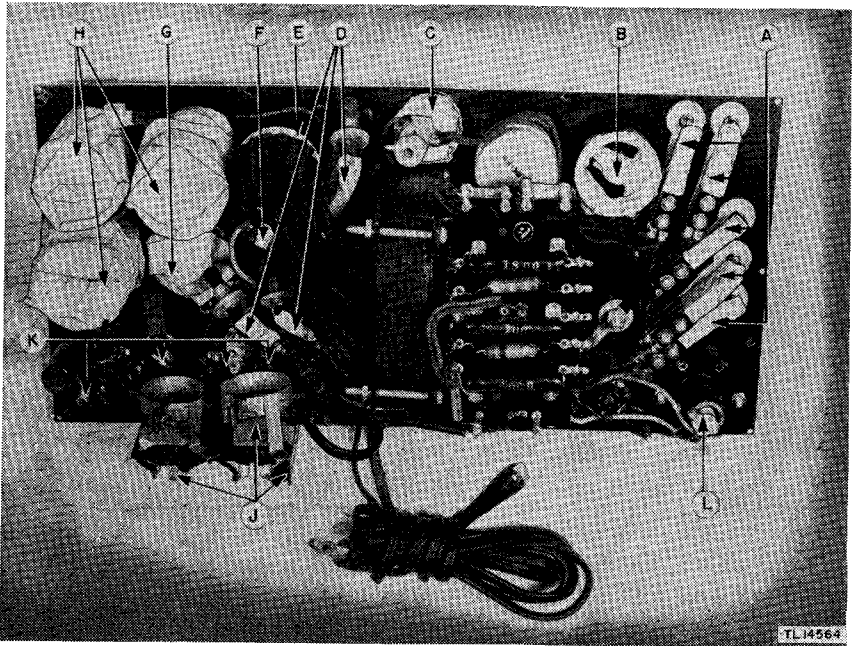

Figure 10. Tube Tester I-177, bottom view, masking for moistureproofing and fungiproofing.
(2) MASKING: Cover the following components with masking tape as shown in figures 10 and 11:
- (a) Contacts of 5 pushbutton switches, item A, figure 10.
- (b) Variable rheostat, item B, figure 10.
- (c) Holes in wafer and casing of micromhos selector switch, item C, figure 10.
- (d) Three pushbutton switches, item D, figure 10.
- (e) Holes in case of filament switch, item E, figure 10.
- (f) Switch contacts on rear of filament selector switch, item F, figure 10.
- (g) Line adjustment rheostat, item G, figure 10.
- (h) Three wafer switches (A, B, and SHORT-TUBE TEST), item H, figure 10.
- (i) Contacts of sockets for vacuum tubes 83 and 5Y3, item J, figure 10.
- (j) Contacts on tube sockets A, B, C, and D, item K, figure 10.
- (k) Contact on acorn socket, item L, figure 10.